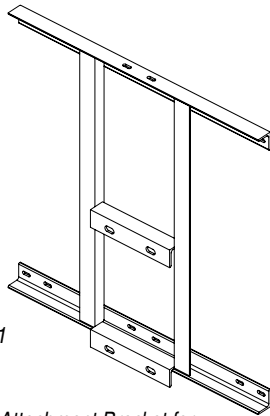
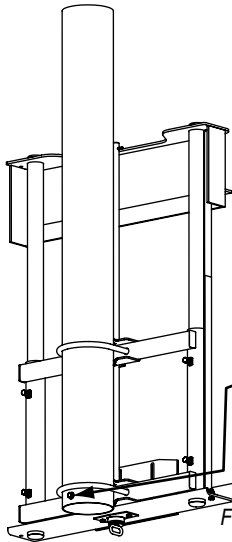

Figure 1
Figure 2
- ① If not already attached, bolt any necessary attachment brackets to the height adjuster mounting tubes (see Fig. 1). If height adjuster is attaching to a T-Stem, the saddle portion of the clamp goes over the height adjuster mounting tube so that the tube rests between the saddle and mast. The saddle is held in place by the U-bolt. Nuts that attach to the U-bolts and saddle brackets should be tightened to 85 ft-lbs. On T-Stem backstops, after the height adjuster is secured in the correct position, drill the mast tube just below the bottom U-bolt and install a $\frac{3}{8}$ "-16 x 1" self-tapping safety screw (see Fig. 2).